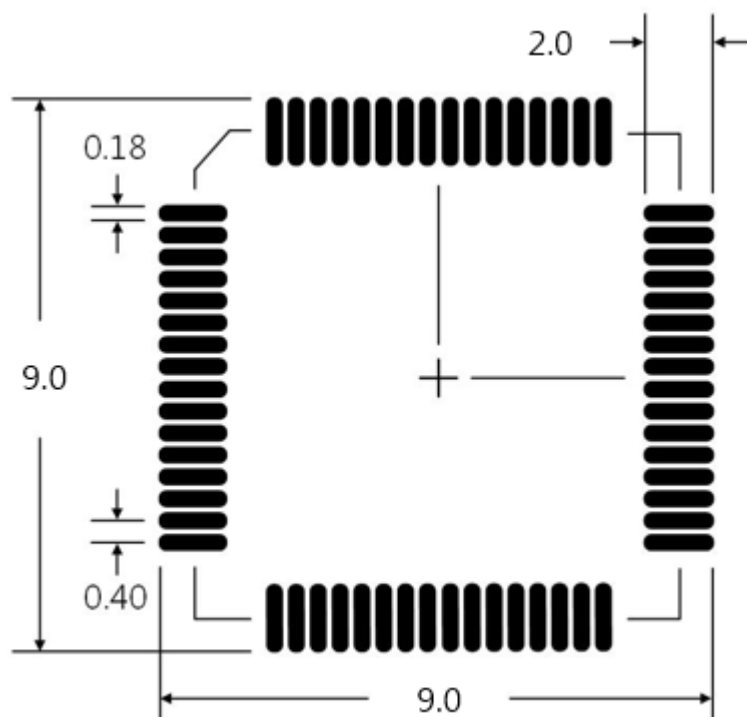

Figure 76 Footprint Information
Figure 76 shows the Footprint information. (mm)
2. Corrected Package Footprint information (see Figure 76 Footprint Information).